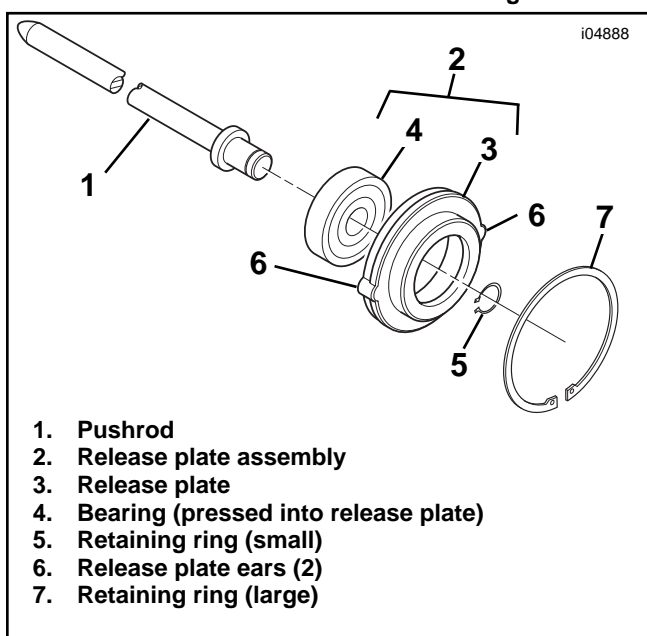

Figure 4. New Clutch Release Plate Assembly
1. Refer to Figure 4. Assemble the new clutch-release plate assembly (2) to the new pushrod (1) as shown, with the large diameter first. Install the small retaining ring (5) from the kit onto the pushrod.
2. Install the assembly into the clutch pressure plate. Fit the two ears (6) into the notches in the pressure-release plate. Push in until the clutch-release plate (3) bottoms out against the shoulder in the pressure plate. Install the new large retaining ring (7) to the clutch-release plate, and verify that the ring is fully seated.